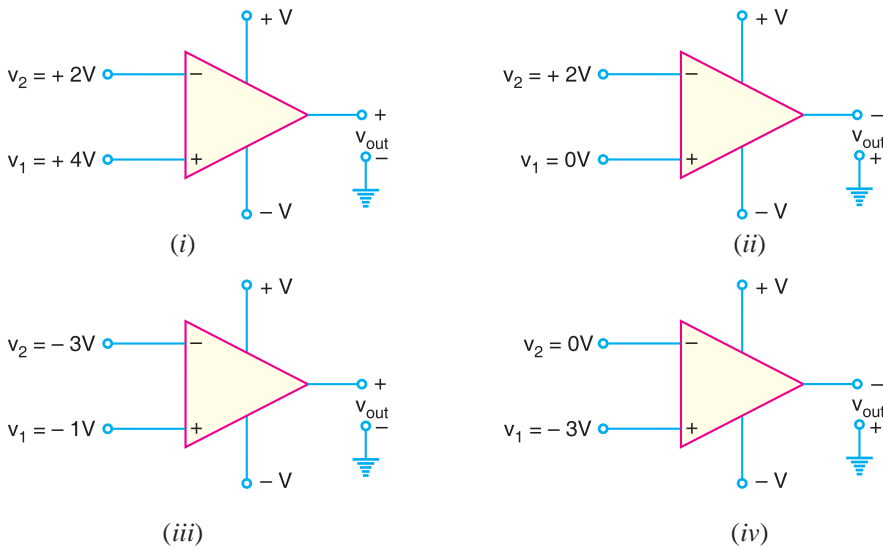

Fig. 25.41
- (i) In Fig. 25.41(i), $v_1 = +4\text{V}$ and $v_2 = +2\text{V}$ so that $v_{in} = v_1 - v_2 = (+4\text{V}) - (+2\text{V}) = 2\text{V}$. Since v_{in} is *positive*, the *OP*-amp output voltage will be *positive*.
- (ii) In Fig. 25.41 (ii), $v_1 = 0\text{V}$ and $v_2 = +2\text{V}$ so that $v_{in} = v_1 - v_2 = (0\text{V}) - (+2\text{V}) = -2\text{V}$. Since v_{in} is *negative*, the *OP*-amp output voltage will be *negative*.
- (iii) In Fig. 25.41 (iii), $v_1 = -1\text{V}$ and $v_2 = -3\text{V}$ so that $v_{in} = v_1 - v_2 = (-1\text{V}) - (-3\text{V}) = 2\text{V}$. Clearly, the *OP*-amp output voltage will be *positive*.
- (iv) In Fig. 25.41 (iv), $v_1 = -3\text{V}$ and $v_2 = 0\text{V}$ so that $v_{in} = v_1 - v_2 = (-3\text{V}) - (0\text{V}) = -3\text{V}$. Therefore, the *OP*-amp output voltage will be *negative*.